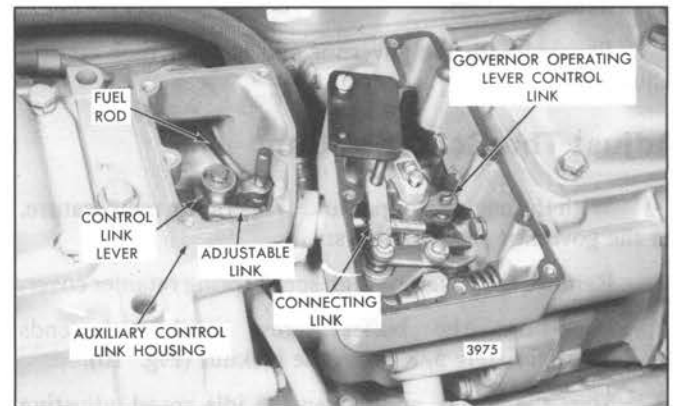

Fig. 2 - Positioning Control Link Levers with Tools J 21779 and J 21780
If the engine or governor has been overhauled, or the injector control linkage has been disturbed, the control link levers in the governor housing and auxiliary control link housing must be aligned before proceeding with the engine tune-up. Refer to Fig. 2 and position the control link levers, as follows:
6. Remove the connecting pin from the control link lever in the governor housing and install gage J 21780. Install the gage so the pin extends through the connecting link, control lever and fuel rod and the governor housing dowel pin extends into the small hole in the gage. Then install a governor cover bolt (Fig. 2). With gage J 21780 in place, the governor control link lever will be in the *mid-travel* position and parallel to the auxiliary control link lever.